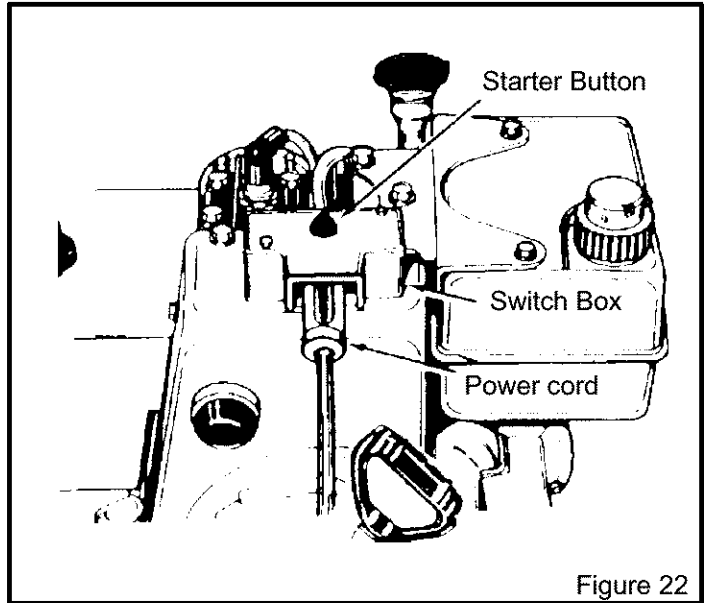

Figure 22
## COLD ENGINE START (ELECTRIC STARTER) (SEE NO TAG AND FIGURE 22)
5. Connect POWER CORD to SWITCH BOX (Figure 22).
- a. Push STARTER BUTTON (Figure 22) to engage starter motor and crank engine.
5. Connect the POWER CORD to the SWITCH BOX (Figure 22).